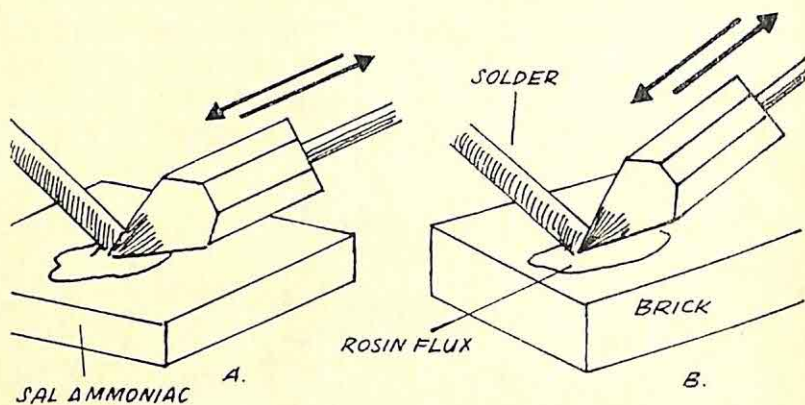

Figure 71
5. Add solder to the tip in either way shown in Figure 71.